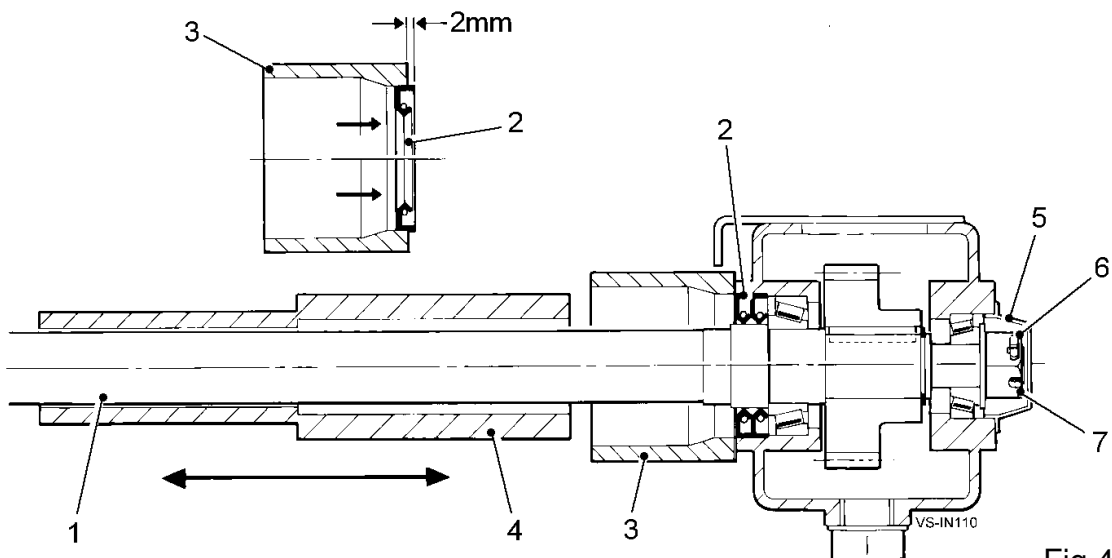

Fig 41
The roller shafts (item 1, fig 41) are each fitted with an oil seal (item 2, fig 41) which is press-fitted into the gearbox casing. The seals prevent loss of oil from the gearbox and also prevent the ingress of dirt. If leakage is apparent, the seals can be replaced in situ by using the guide sleeve and slide hammer service kit.
2. Prise out the worn seal (item 2, fig 41) taking care not to damage the seal aperture in the gearbox. Clean the seal aperture and the surrounding face of the gearbox.
4. Push the new seal into the compression ring (item 3, fig 41) until the seal protrudes approximately 1-2mm beyond the ring face (see fig 41). Slide the compression ring complete with seal over the roller shaft (item 1, fig 41) and locate the seal into the aperture.
5. Locate the slide hammer (item 4, fig 41) over the roller shaft and, holding the compression ring and seal firmly against the gearbox face, bump the seal into the gearbox. If required, a second seal can be fitted behind the first to give additional backup.
1. Clean the loose soil from around the gearbox face and prise out the end cap (item 5, fig 41).
2. Remove the split pin (item 6, fig 41) from the castellated nut (item 7, fig 41) and tighten the nut to a torque of 22 lb/ft.
3. Check the roller shaft (item 1, fig 41) again for free play.
4. Refit the split pin (item 6, fig 41) in the next clear hole, tightening the nut a maximum of one flat if needed.